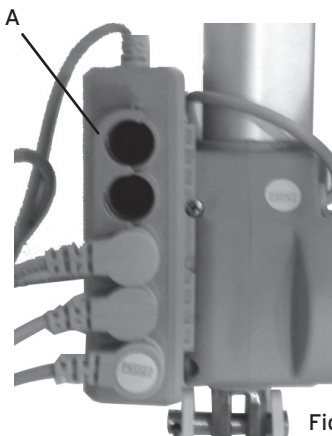

Fig. 4
- Block the connectors on the control box with the plastic cable holder ref.A in Fig.4